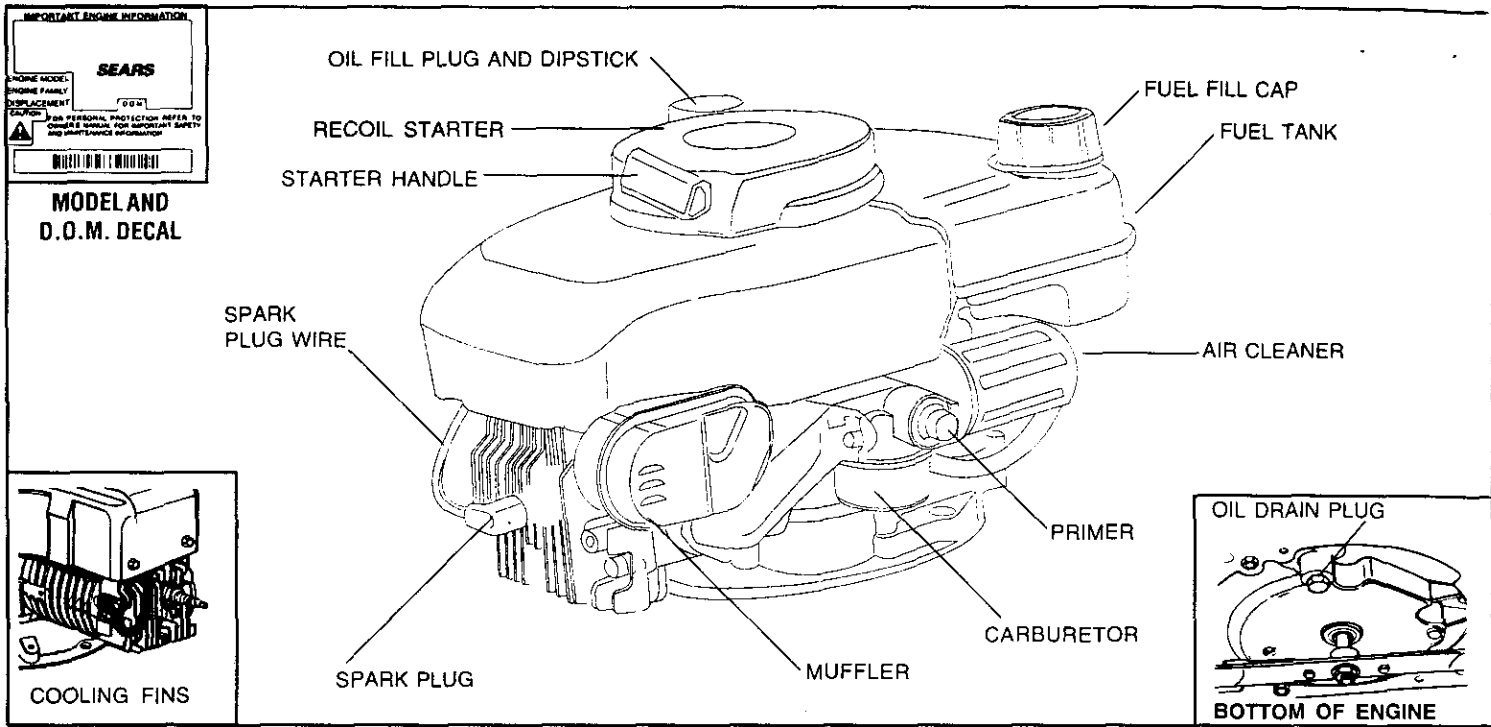

Figure 1
- Clean area around oil fill plug (see Figure 1).
**B. Be sure spark plug wire is attached to spark plug (see Figure 1).**
① Move engine control (see Figure 1) to HI Position.
**ENGINE SPEED:** Engine speed is controlled by the engine control (see Figure 1). Engine control should be in HI position for high grass conditions and for most efficient bagging in heavy grass conditions, and in LOW position for light grass, trimming and for fuel economy.